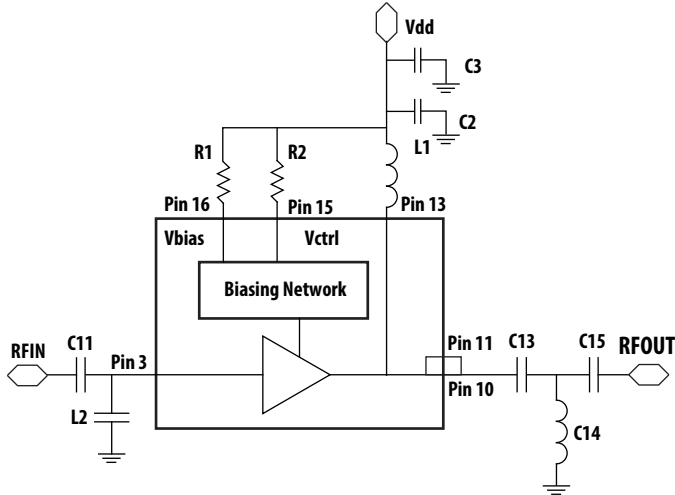

Figure 46. Circuit Diagram
1.  $V_{bias}$  and  $V_{ctrl}$  can be externally controlled by change external biasing resistors  $R1 = R_{bias}$  and  $R2 = R_{ctrl}$  (as shown in Fig. 46).
1. Vbias and Vctrl can be externally controlled by change external biasing resistors R1 = Rbias and R2 = Rctrl (as shown in Fig. 46).